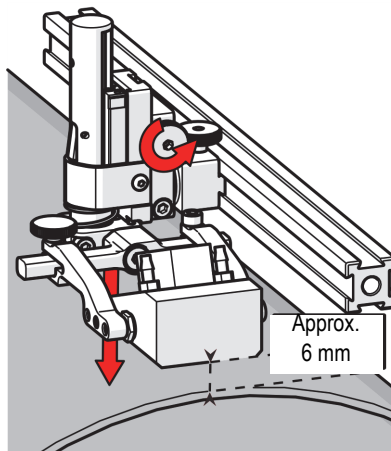

Figure 2-57 Lower toward scan surface
2. Loosen the vertical adjustment knob and slide the probe holder down until the wedge is approximately 6 mm (0.25 in.) above inspection surface (see Figure 2-57 on page 95), and then tighten the vertical adjustment knob.